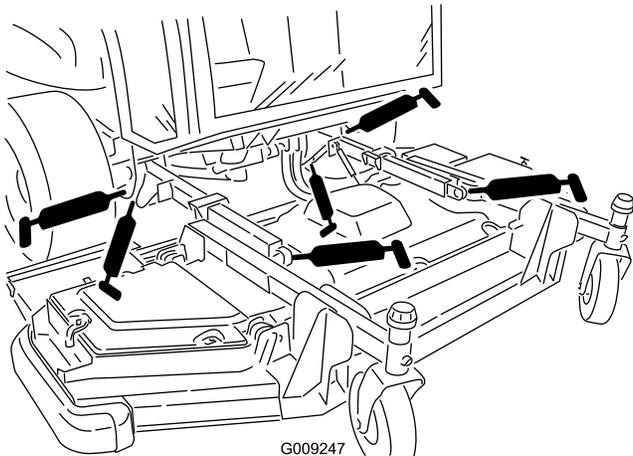

Figure 90
- 2 lift-arm bushings (Figure 90)
- 2 lift-arm-ball joints (Figure 90)
- 2 front deck lift-cylinder pivots (Figure 90)